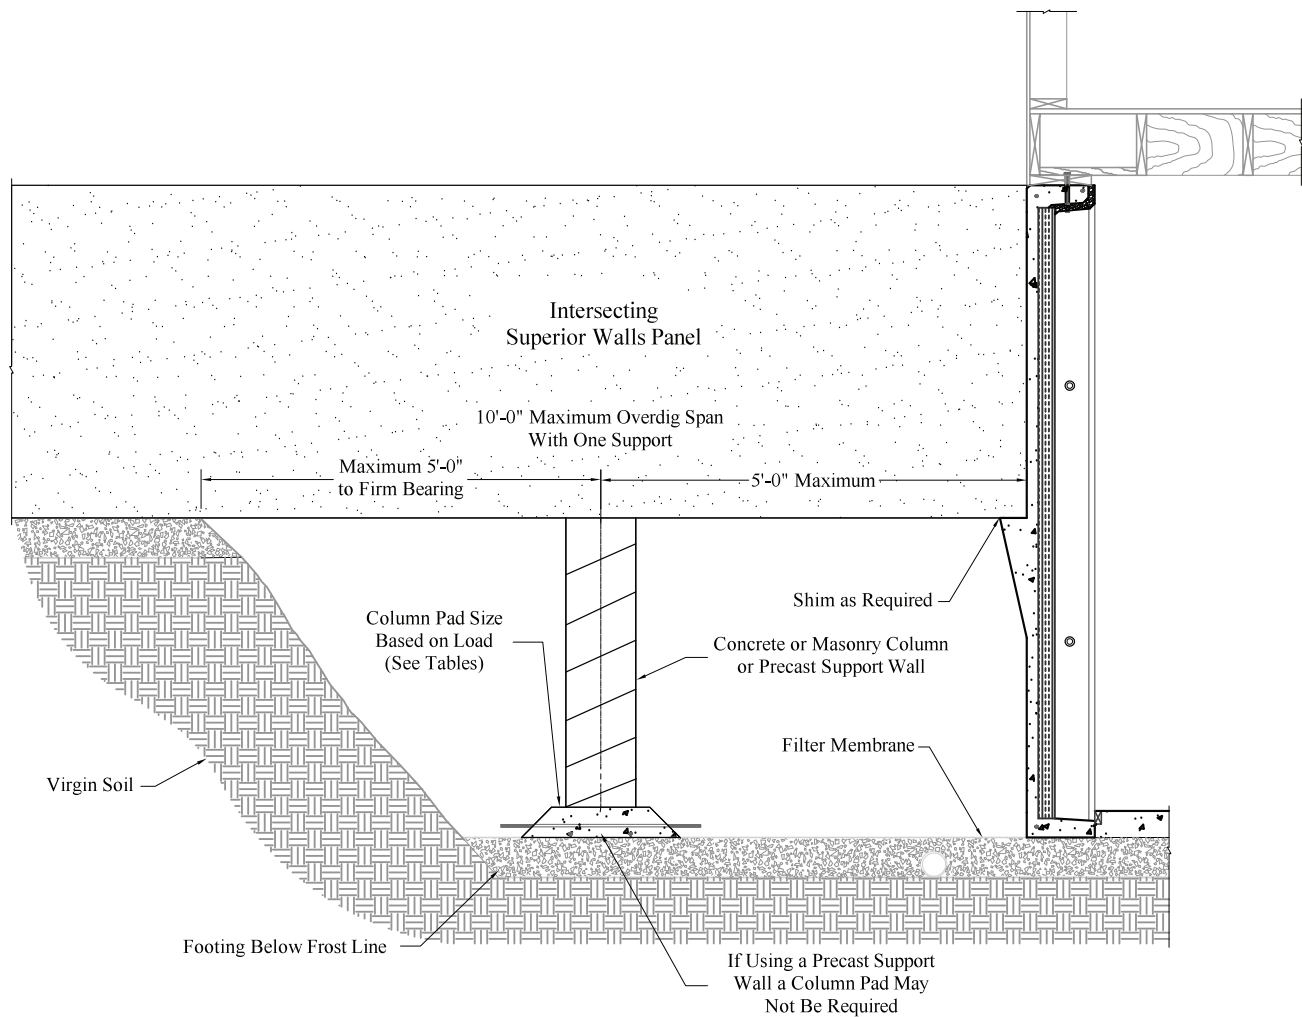

Figure 5
- When an overdig is more than 5'-0", an intermediate support column / wall is required unless project-specific engineering is provided. (See Figure 5.)